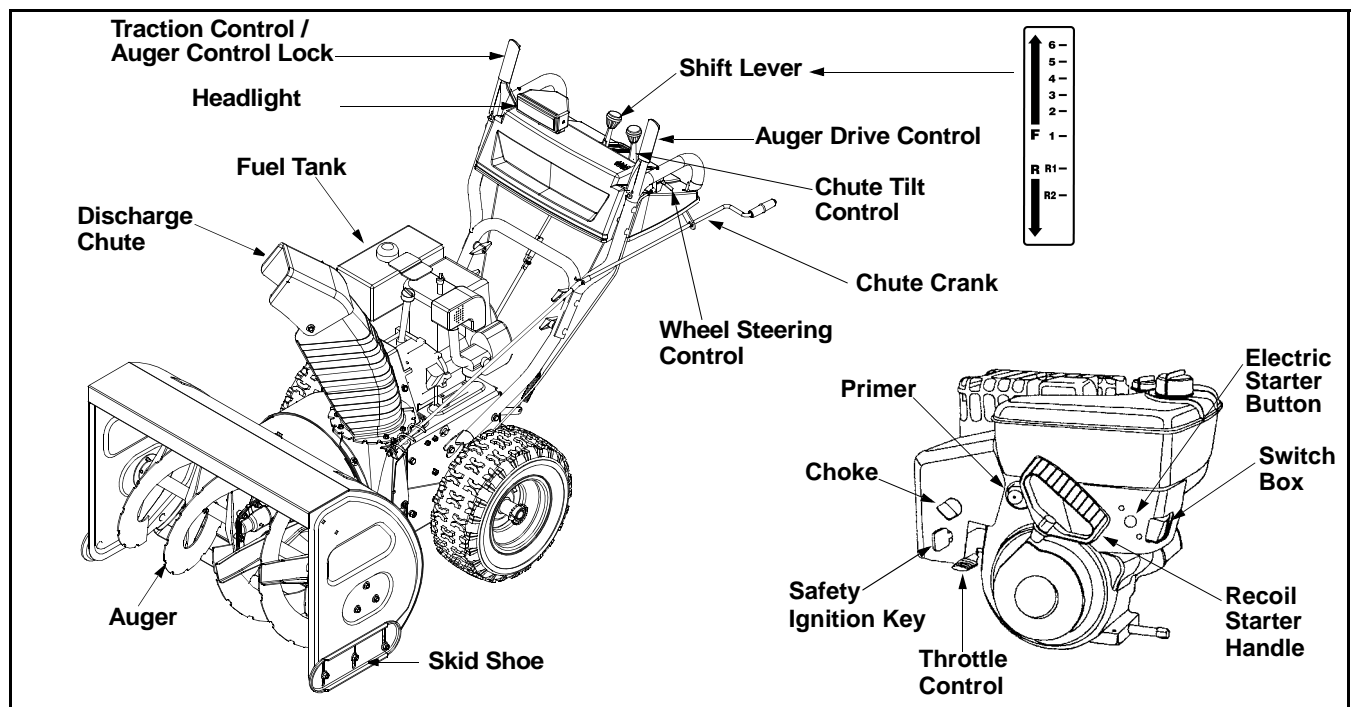

Figure 9
The traction control is located on the right handle. Squeeze the traction control to engage the wheel drive. Release to stop. See Figure 9.
The shift lever is located in the center of the handle panel and is used to determine ground speed and direction of travel. It can be moved into any of eight positions. See Figure 9.
The distance snow is thrown can be changed by adjusting the angle of the chute assembly. Move the chute tilt control forward to decrease the distance, toward the rear to increase. See Figure 9.
The throttle control is located on the engine. It regulates the speed of the engine. See Figure 9.
The safety ignition key must be fully inserted in the switch before the unit will start. Remove key when snow thrower is not in use. Do not attempt to turn the key. See Figure 9.
- Move throttle control up to FAST position. Insert ignition key into slot. See Figure 9. Be certain it snaps into place. **Do not turn key.**